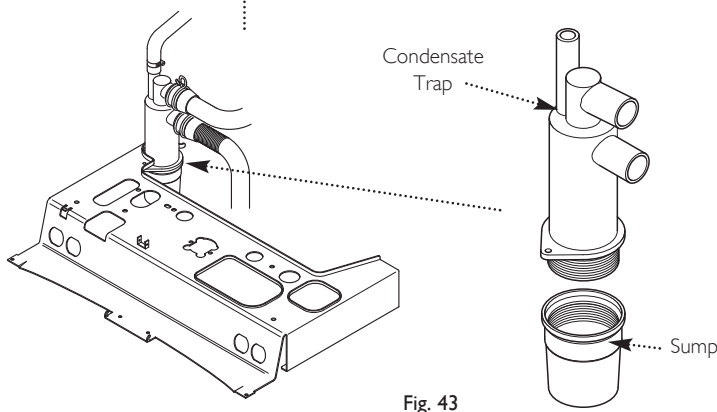

Fig. 43
5. Unscrew the sump from the bottom of the condensate trap assembly (Fig. 43) and remove any deposits from the sump and trap. Clean as necessary and replace the sump